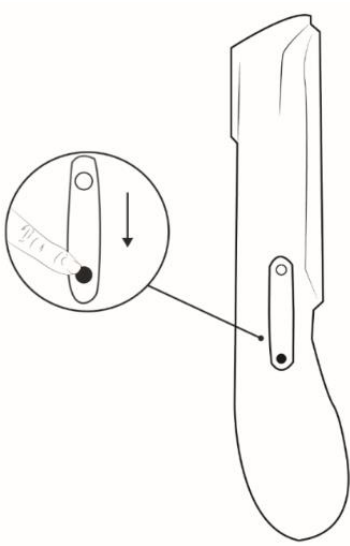

Figure 6:
- 1. Toggle the Rocker Switch to its “down” position (Figure 6).